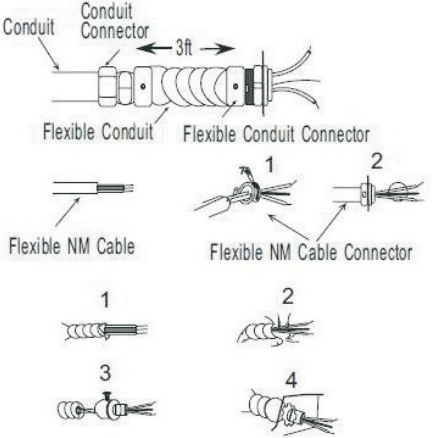

Figure 8
- Attach the cable connectors to the unit (See Figure 8) and slide the 10-gauge wire through the cable connector.
NOTE: All wiring must be carried out by a certified electrician and must be in accordance to national and local electrical codes in the United States. For certain applications, conduit may be required (as shown in figure 8). Check local electrical codes. If you run the wiring in conduit and wish to be able to turn the heater be sure to purchase enough flexible conduits to allow the heater to be turned.